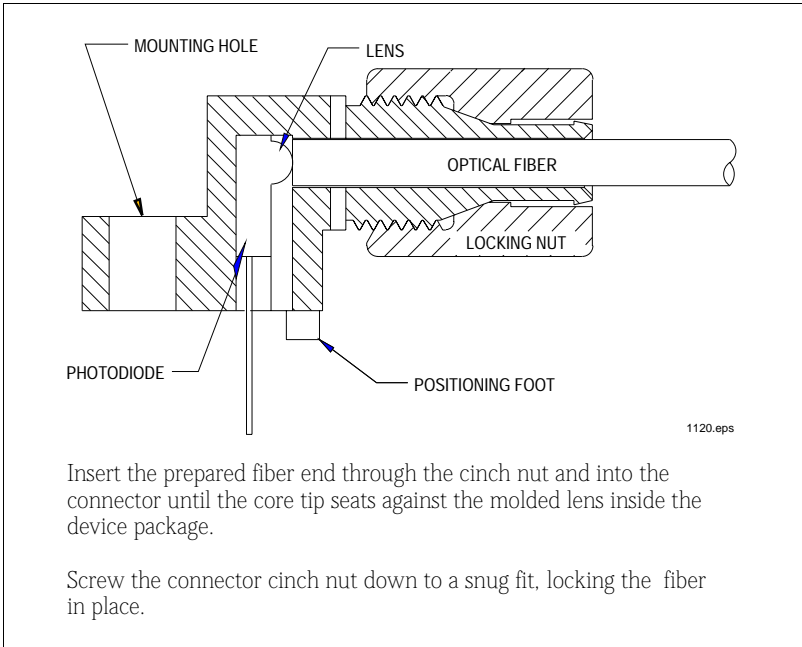

Figure 4. Cross-section of fiber optic LED and cable.
- A10.** Connect the transmitter and receiver assemblies with the optical fiber, following the steps in **Figure 4**. Move the transmitter and receiver printed wiring boards as far apart as the fiber length will allow.